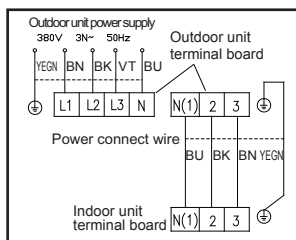

Fig.13
4. According to the diagram for wiring, according to the marks on wire board for connection correspondingly, as shown in Fig.13.